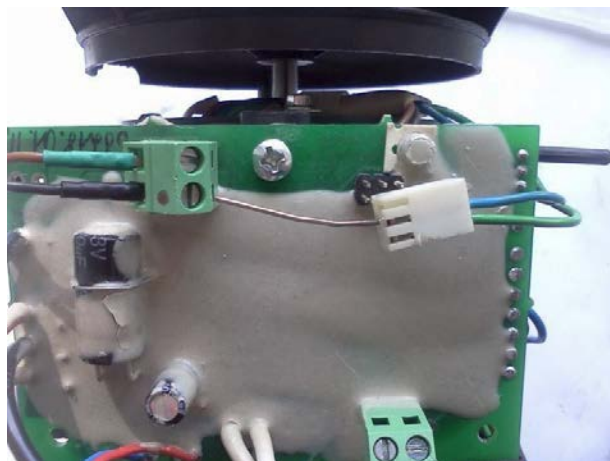

Fig.12–Control signal (PWM) connections in motor testing.
- 2) Check the performance of the AB. To accomplish this, briefly connect the terminal of the blue wire (white block, PWM) to the terminal of the black wire (Figure 12) with a jumper, a thin wire. The heater should be connected to the power supply, but turned off. If the fan starts to spin - the AB is OK.
- 3) Check the AB for the absence of "blind spots". For this purpose, connect the terminal of the blue wire to the terminal of the black wire (Figure 12) multiple times, while changing the position of the fan, to verify if the AB starts in every position possible. If there are any "blind spots" - the AB is defective.
4) Check the performance of the speed measurement channel. To do this, connect the contacts of blue and black wires (Figure 12), and measure the pulse frequency on the green wire with a digital tester. When the AB is gaining speed, the pulse frequency should increase. Open the contact. The AB will start to slow down, and the pulse rate will begin to decline. If any of these conditions is not met, the AB is faulty.